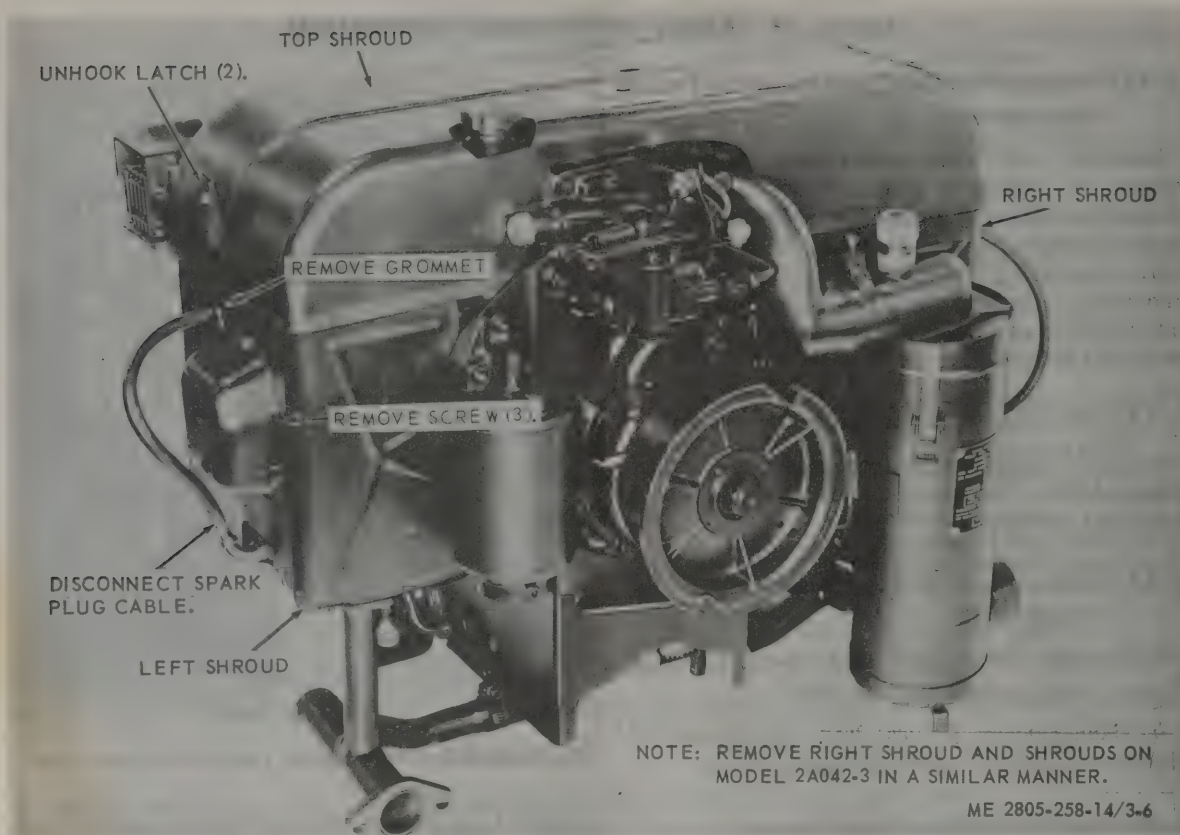

Figure 3-6. Top, left, and right shrouds, removal and installation.
(1) Remove receptacle connector (para 3-36).
(2) Refer to figure 3-6 and remove top, left and right shrouds.
(1) Refer to figure 3-6 and install top, left, and right shrouds.
(2) Install receptacle connector (para 3-36).